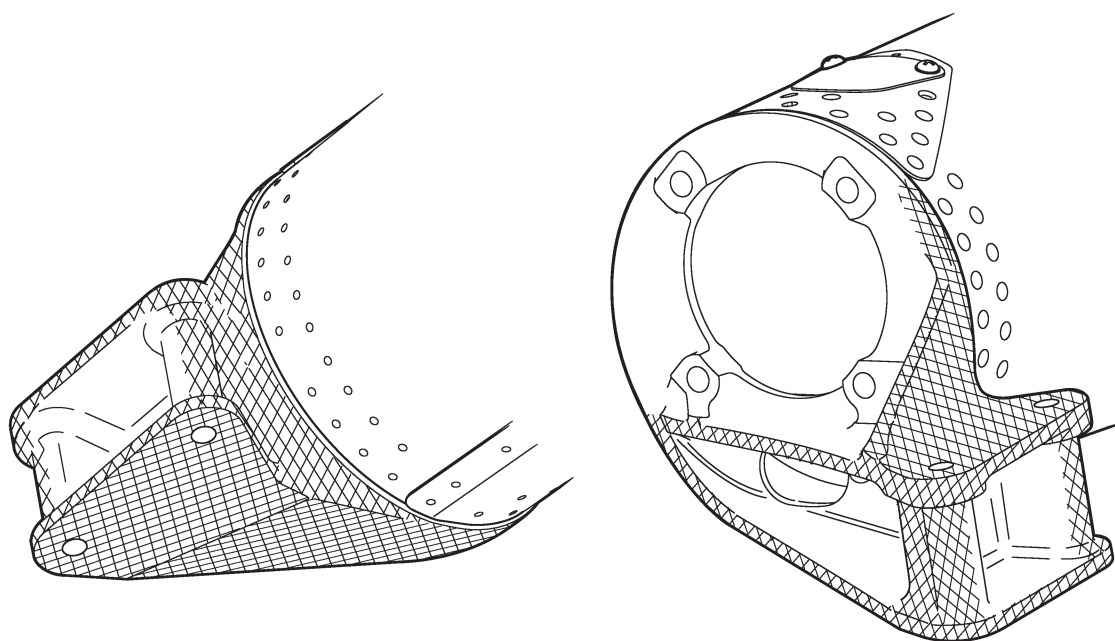

FIGURE 5-8 CROSS-HATCHED SURFACES OF TAILCONE'S AFT CASTING
1. On associated tailcone's aft C148-5 bulkhead, strip paint from cross-hatched surfaces shown in Figure 5-8 using § 20-71 approved materials.